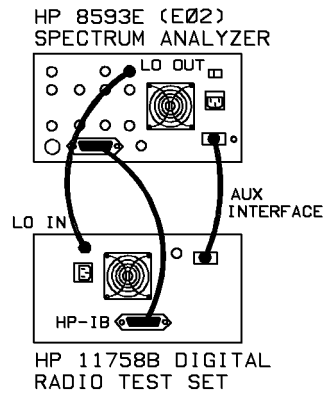

Figure 2-3. HP 11758V Backpanel Connections
5. Check Figure 2-3 and compare with your connections.